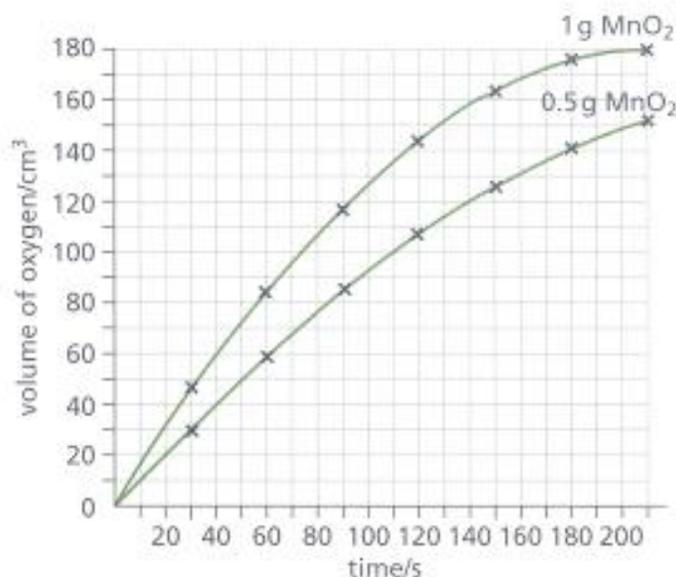

Figure 11.9 Sample data for differing amounts of MnO2 catalyst.
Some sample results from experiments of this type have been plotted in Figure 11.9. At the end of the reaction, the manganese (IV) oxide can be filtered off and used again. The reaction can proceed even faster by increasing the amount and surface area of the catalyst. This is because the activity of a catalyst involves its surface. Note that, in gaseous reactions, if dirt or impurities are present on the surface of the catalyst, it will not act as efficiently; it is said to have been 'poisoned'. Therefore, the gaseous reactants must be pure.